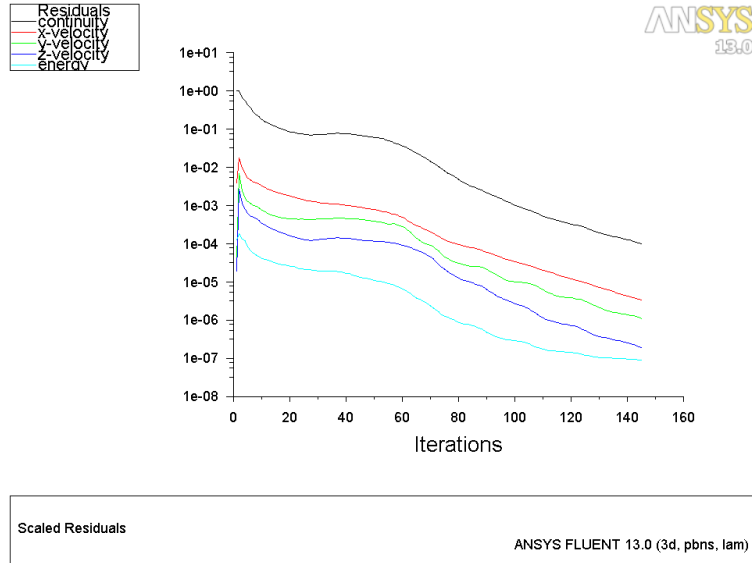

Figure 3: Residual Plot
8. Request 200 iterations (Figures 3 and 4).